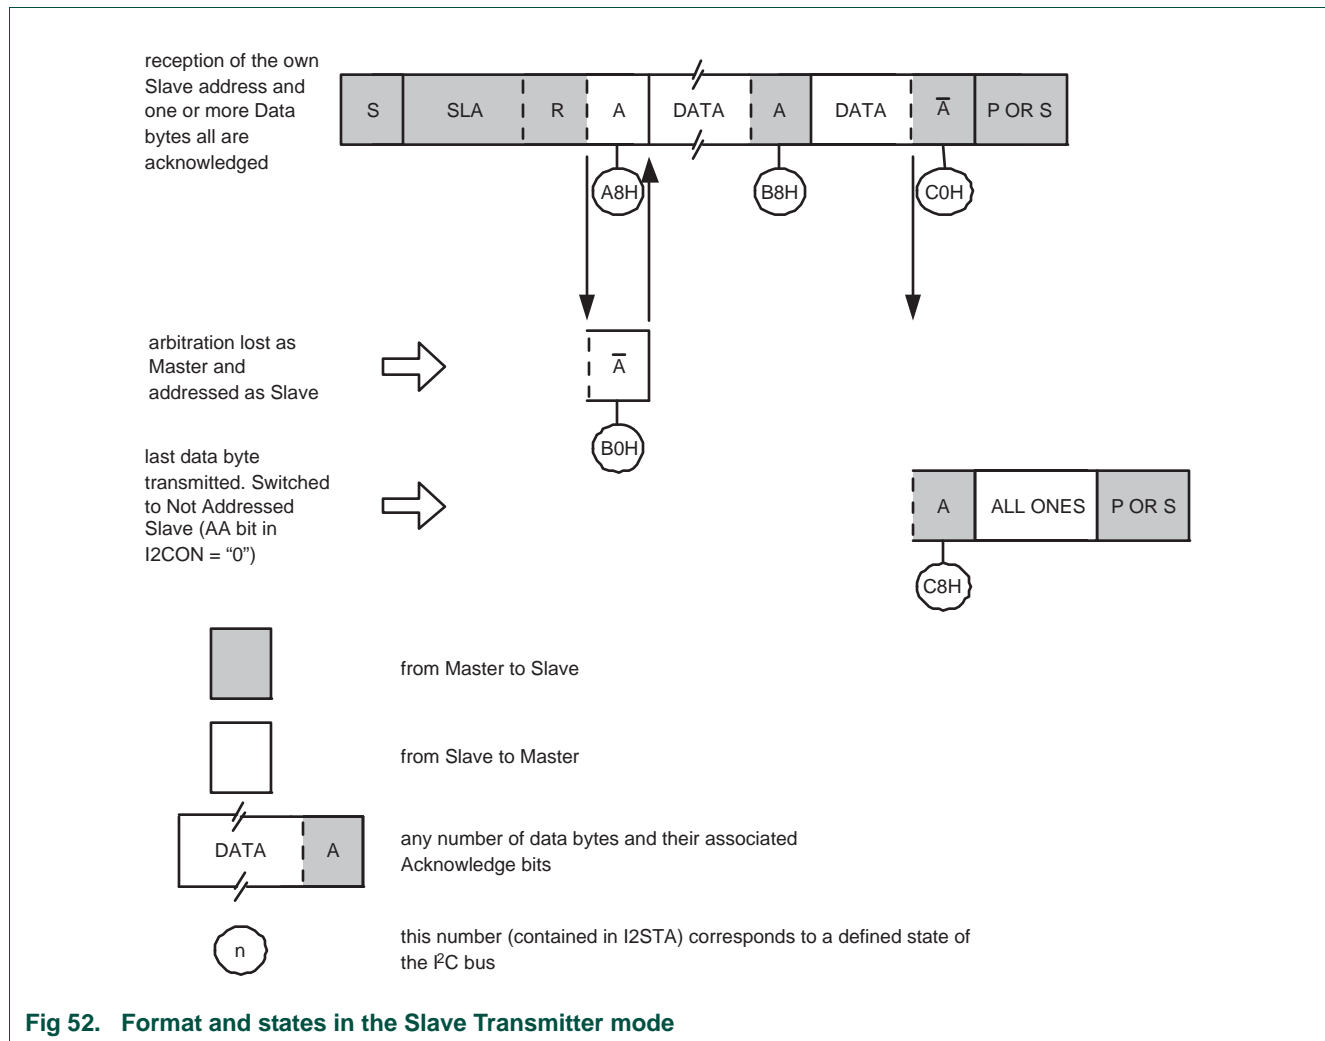

Fig 52. Format and states in the Slave Transmitter mode
In the slave transmitter mode, a number of data bytes are transmitted to a master receiver (see Figure 52). Data transfer is initialized as in the slave receiver mode. When ADR and CON have been initialized, the I²C block waits until it is addressed by its own slave address followed by the data direction bit which must be “1” (R) for the I²C block to operate in the slave transmitter mode. After its own slave address and the R bit have been received, the serial interrupt flag (SI) is set and a valid status code can be read from STAT. This status code is used to vector to a state service routine, and the appropriate action to be taken for each of these status codes is detailed in Table 292. The slave transmitter mode may also be entered if arbitration is lost while the I²C block is in the master mode (see state 0xB0).